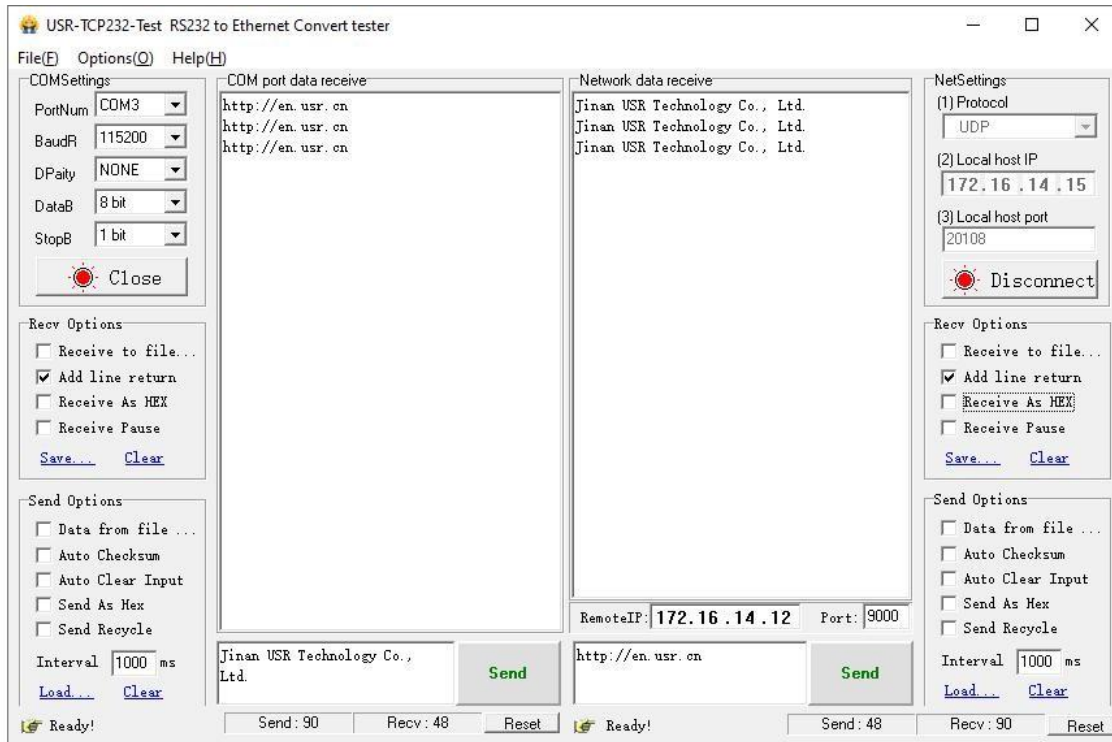

Fig.56 UDP Client test
5. After finishing configuring the working Mode, please scroll down to the bottom of the page and click on "Save & Apply" button to save all the changes that you have made. All configurations take effect after a system reboot. Fig.56 shows an example of test in this mode. In this case, IP address of USR-N5X0 is 172.16.14.12, host IP address is 172.16.14.15.